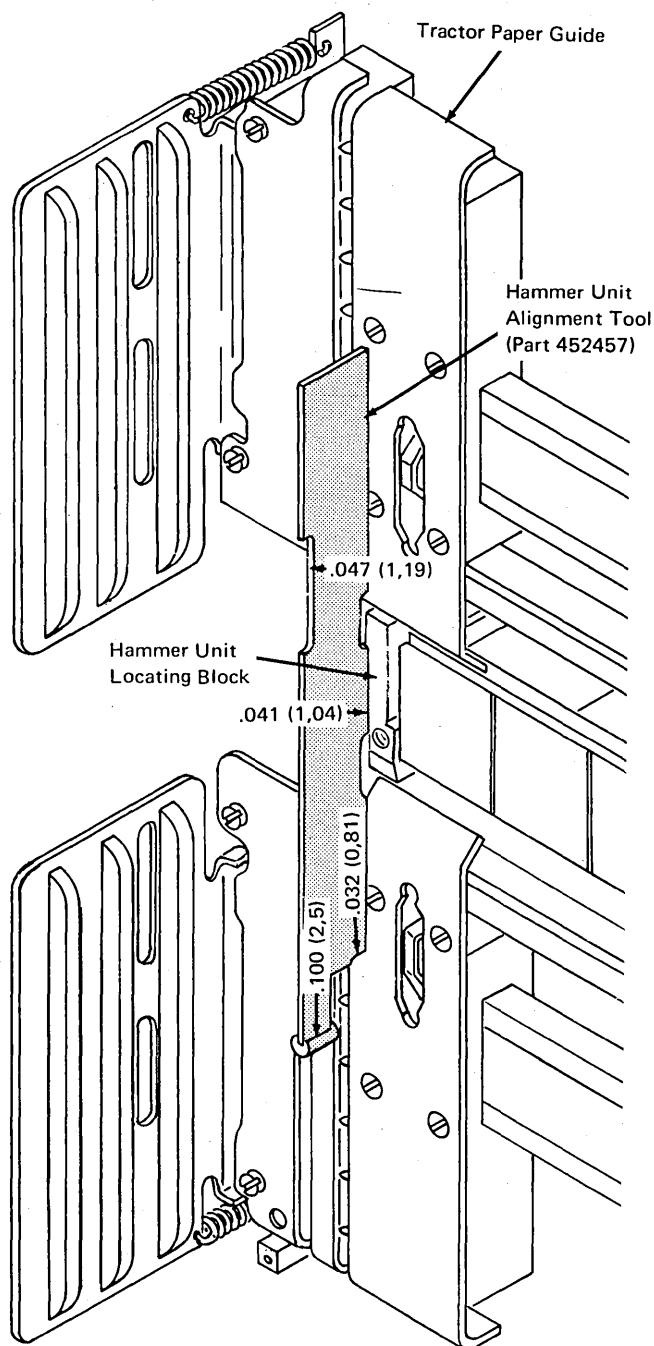

Figure 4-23. Hammer Unit to Paper Path Alignment
1. Alignment of the hammer unit to the paper path .041 in. (1, 04 mm) (Figure 4-23).
4. Move the left upper and lower tractors to a point opposite the left hammer-unit locating block (see Figure 4-23).
7. With the tractor doors open, place the hammer unit alignment tool (part 452457) vertically against the tractor paper guide plates (Figure 4-23). The projection in the center part of the tool is .041 in. (1, 04 mm).
9. Adjust the hammer-unit bushing stops (Figure 4-23 and 4-24) to bring the locating blocks into visible contact with the center portion of the tool.